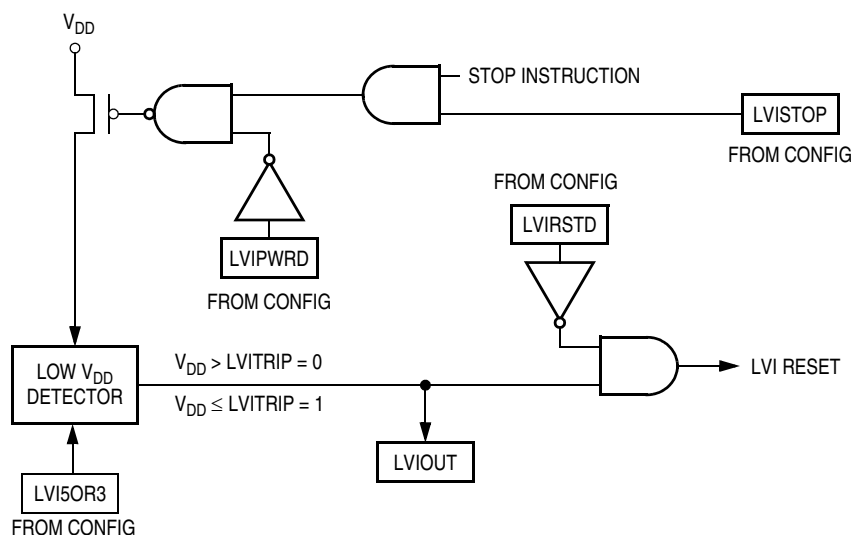

Figure 10-1. LVI Module Block Diagram
**Figure 10-1** shows the structure of the LVI module. LVISTOP, LVIPWRD, LVI5OR3, and LVIRSTD are user selectable options found in the configuration register (CONFIG1). See **Section 4. Configuration Register (CONFIG)**.